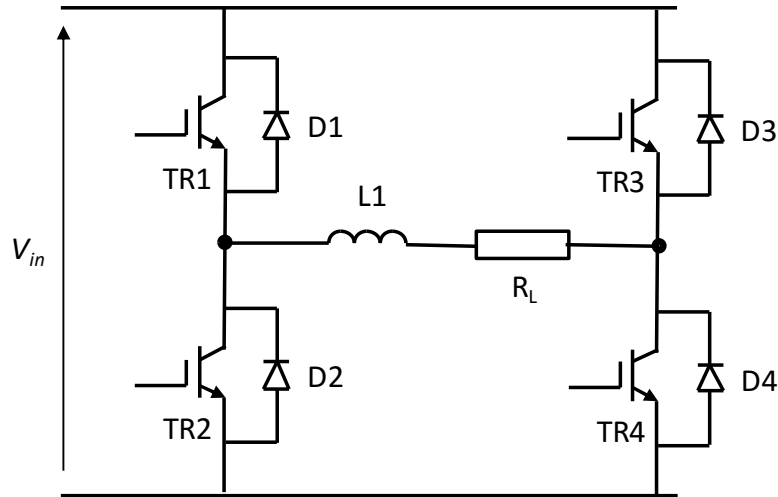

Figure Q2a: Full-bridge power converter
- Q2 Q2a** The full-bridge circuit in Figure Q2a operates under pulse width modulation (PWM) control. TR1 and TR4 are switched on simultaneously at a duty factor of 70%. TR2 and TR3 are held off throughout the switching cycle. V_{in} is 400V. Calculate the average voltage appearing across the load resistance, R_L . Sketch the current waveform appearing in D2. According to the manufacturer's data sheet, applying a voltage of 0V between the gate and emitter of the IGBT type used in locations TR1-4 will result in it being fully turned off. However, it may be necessary to apply a negative off-state gate-emitter voltage when the IGBT is deployed in the circuit in Figure Q2a. Explain why this is the case.